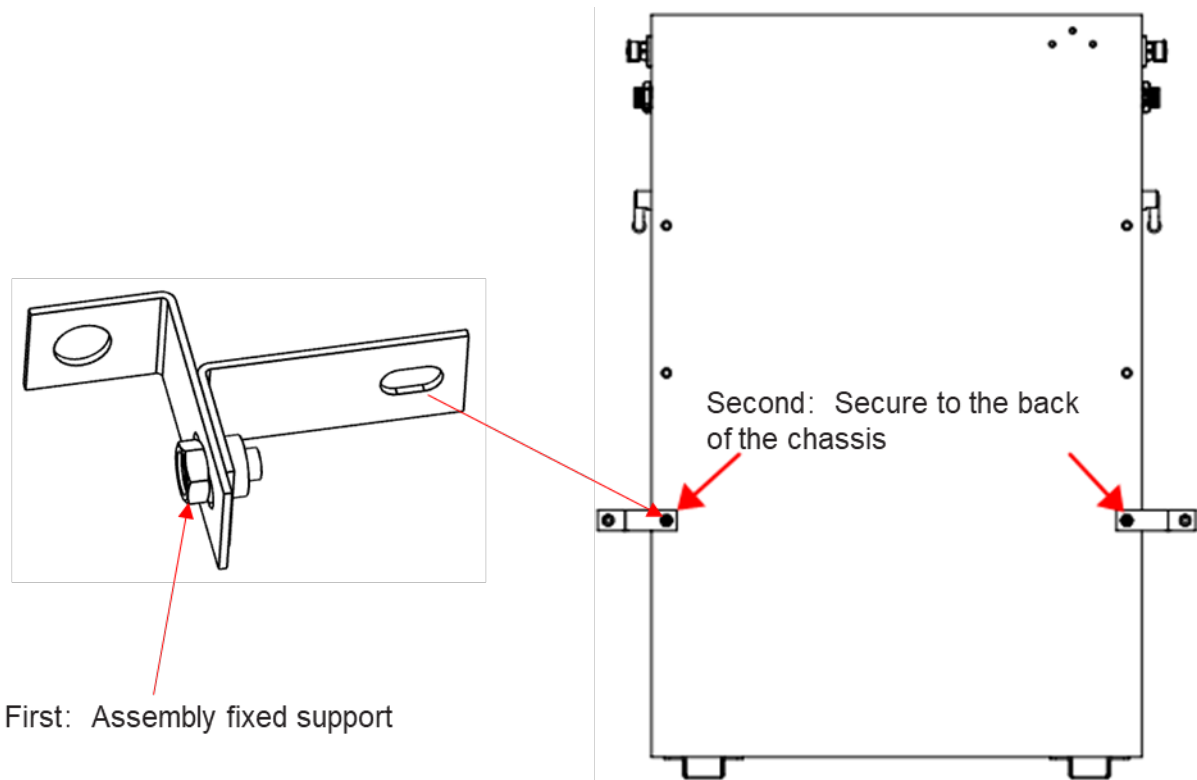

Figure 5-4
e) Use the 4 screws of M6*10 to fix the left and right retaining ears to the back of the battery, as shown in Figure 5-4.